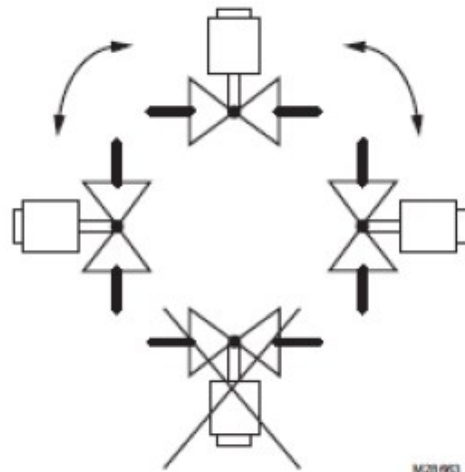

Fig. 5. Mounting position.
Prepare piping and install valve (Fig. 5)
4. Install valve in a horizontal pipe line, (refer to Fig. 5 for mounting position) with the gas flow matching the direction indicated by the arrow on the casting.